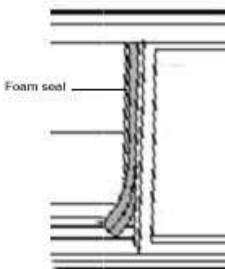

Fig. 9
5. Trim the final foam seal to the proper length and seal the open gap between the sliding window panel and the outer panel. (Fig.9)